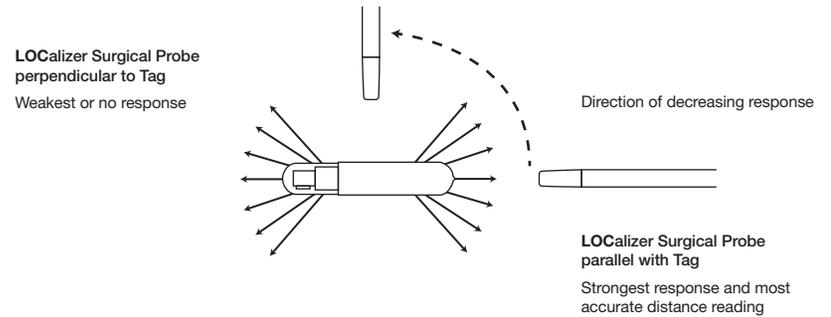

Figure 4. Assessing Tag location/position with Surgical Probe using signal strength (not to scale)
** As measured from end of the Surgical probe to end of Tag (Figure 4)